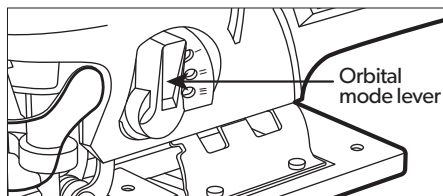

Figure 2
1. The jigsaw comes with four cutting modes (three cutting settings and 1 straight cutting mode). To change cutting mode, adjust the Orbital Mode Lever (16). See Figure 2, below.